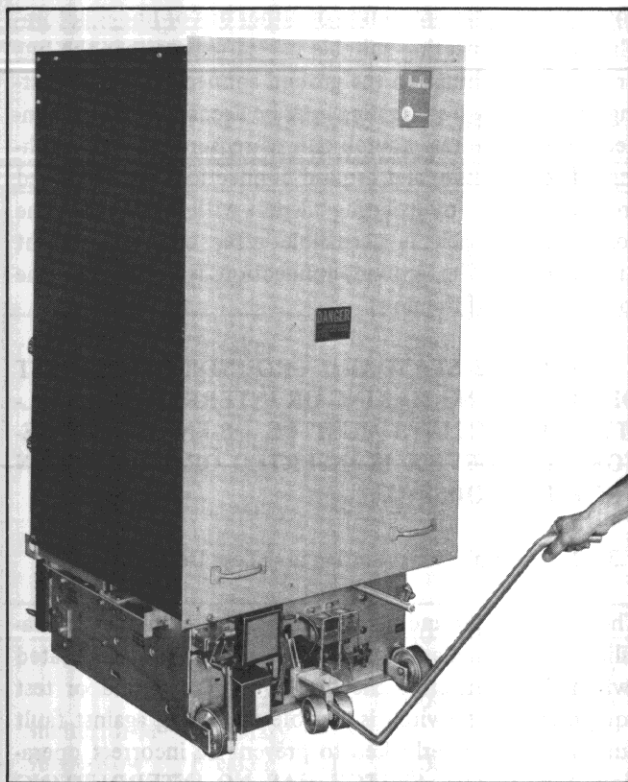

Fig. 38 Using Turning Dolly (391371)
1.31.6 A TURNING DOLLY (Fig. 38) is furnished with indoor and Shelterfor-M installations to facilitate turning the breaker when it is outside the housing. It is not to be used to insert or remove the breaker from the housing. Using the turning dolly this way could cause the floor trippers to not function properly or it could cause the MOC switch operating pin on the breaker to not properly engage the pantograph in the cell.